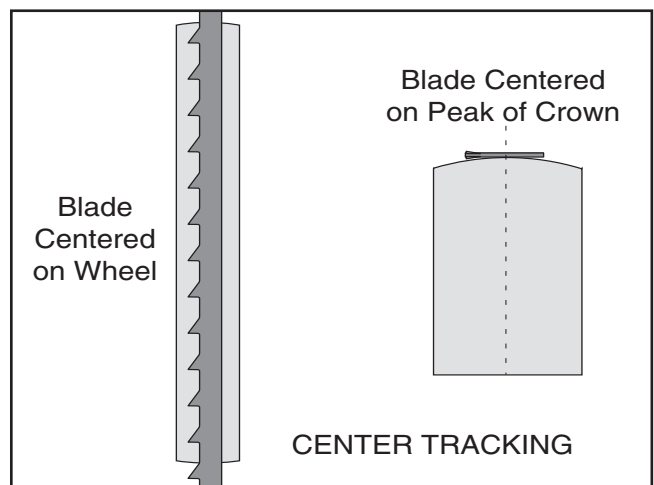

Figure 24. Center tracking profiles.
5. Spin the upper wheel by hand at least three times and watch how the blade rides on the crown of the wheel. Refer to **Figure 24** for an illustration of this concept.